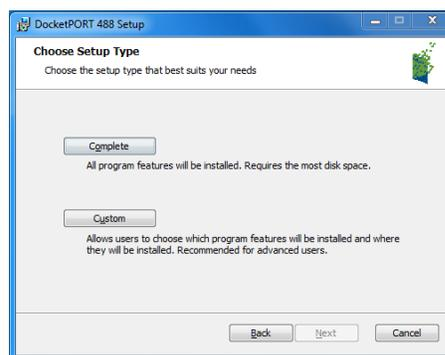

Fig. 4
- f) The Choose Setup Type window shows two choices of installation, select the “Complete” button and allow the full installation (Fig. 4).